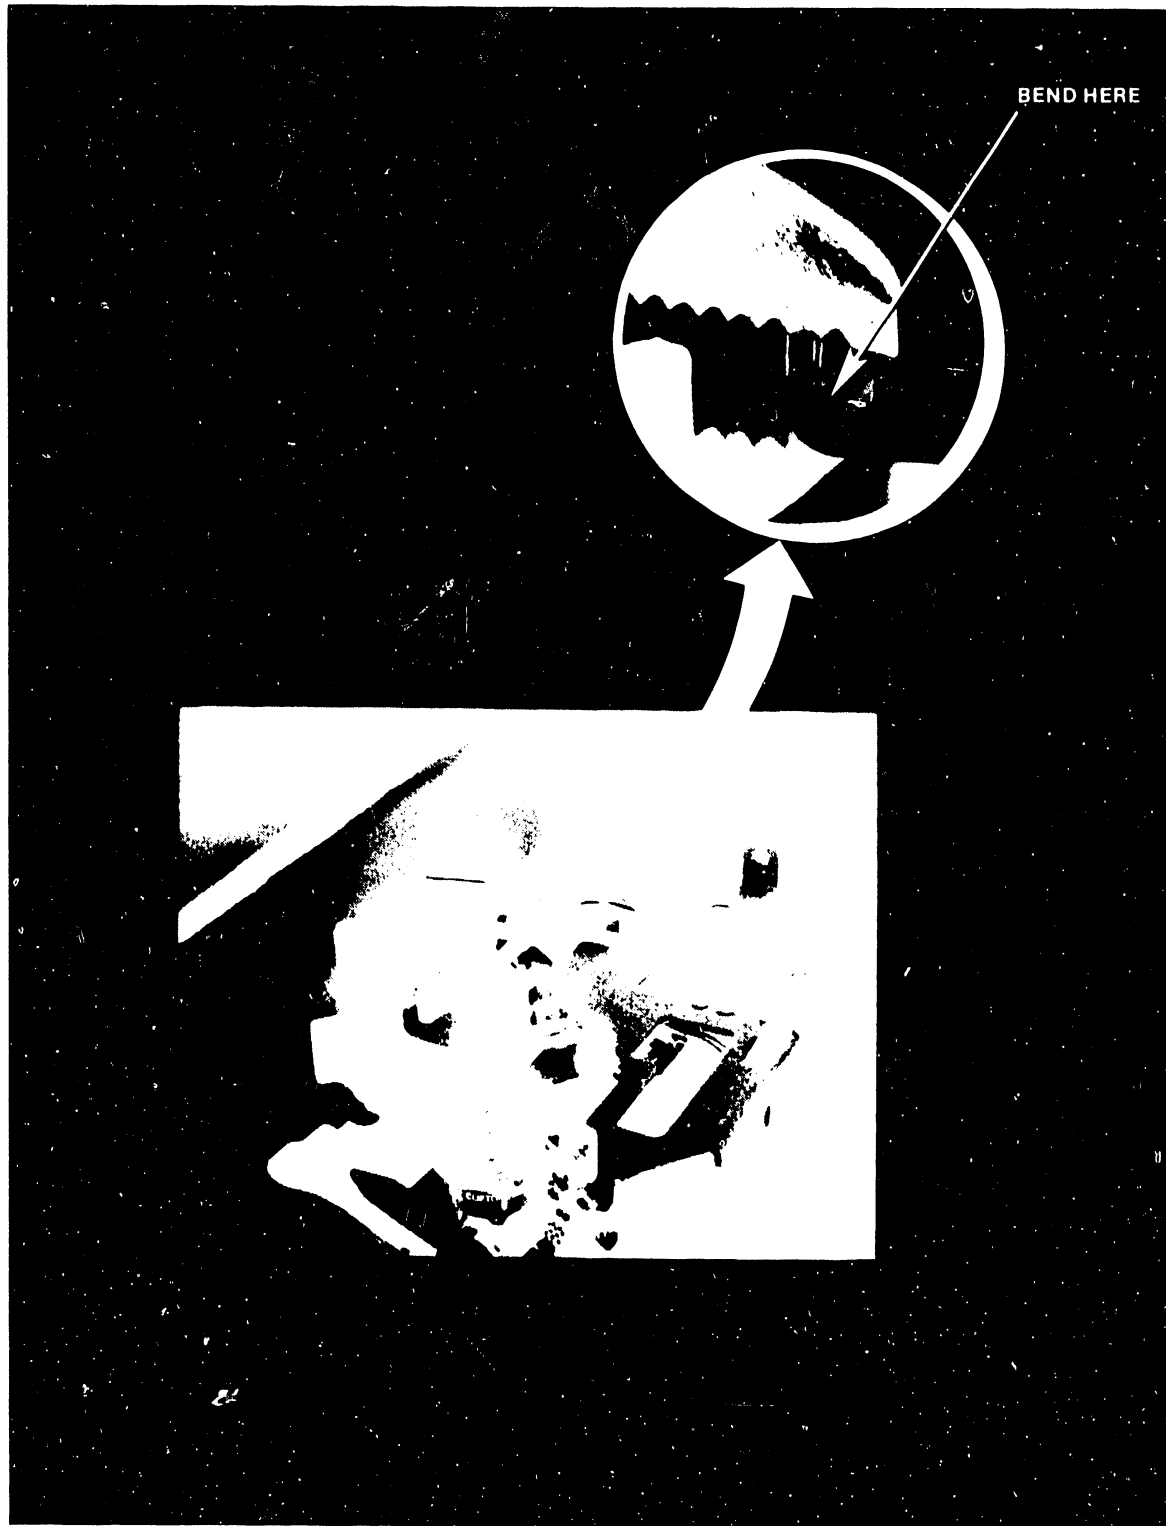

FIGURE 5-23 RIBBON-HEIGHT CHECK AND ADJUSTMENT
3. Use channel-lock pliers to grip ribbon platform (see Figure 5-23), and bend height tab either up or down, as required.